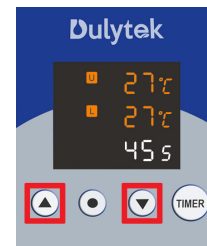

Fig. 8
8. Press Up **▲** or Down **▼** buttons to select either °F or °C (Fig. 8) OR skip this step if you are satisfied with the current selection.